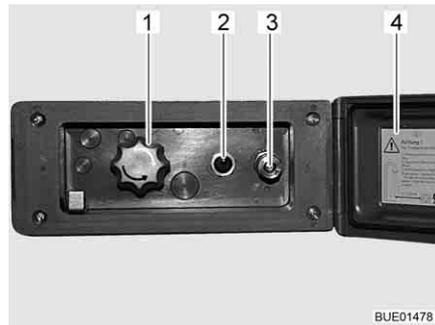

Fig. 128 External shower connection point
- Unlock and open the cover (Fig. 128,4).
- Attach hose of the external shower to the quick closure (Fig. 128,3).
- Switch on the water pump using the switch (Fig. 128,2).
- Adjust the water temperature with the rotary knob (Fig. 128,1) as desired.
- Switch off the water pump using the switch (Fig. 128,2).
- Close the cover (Fig. 128,4) and lock with key.
- Turn knob (Fig. 128,1) to the centre position.